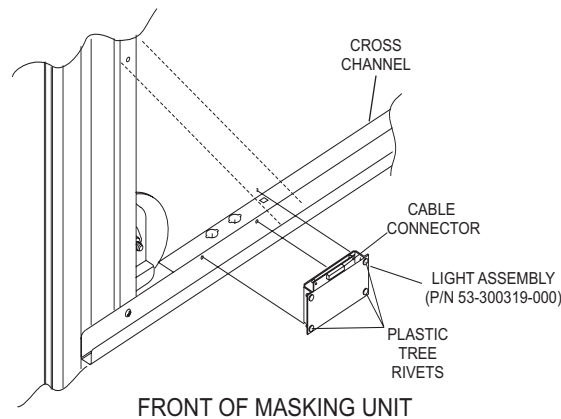

Figure 1
2. Insert the ends of three plastic tree rivets on the 1st/2nd ball light assembly through the holes in the masking unit frame. Make sure that the cable connection is facing upward. Refer to Figure 1.